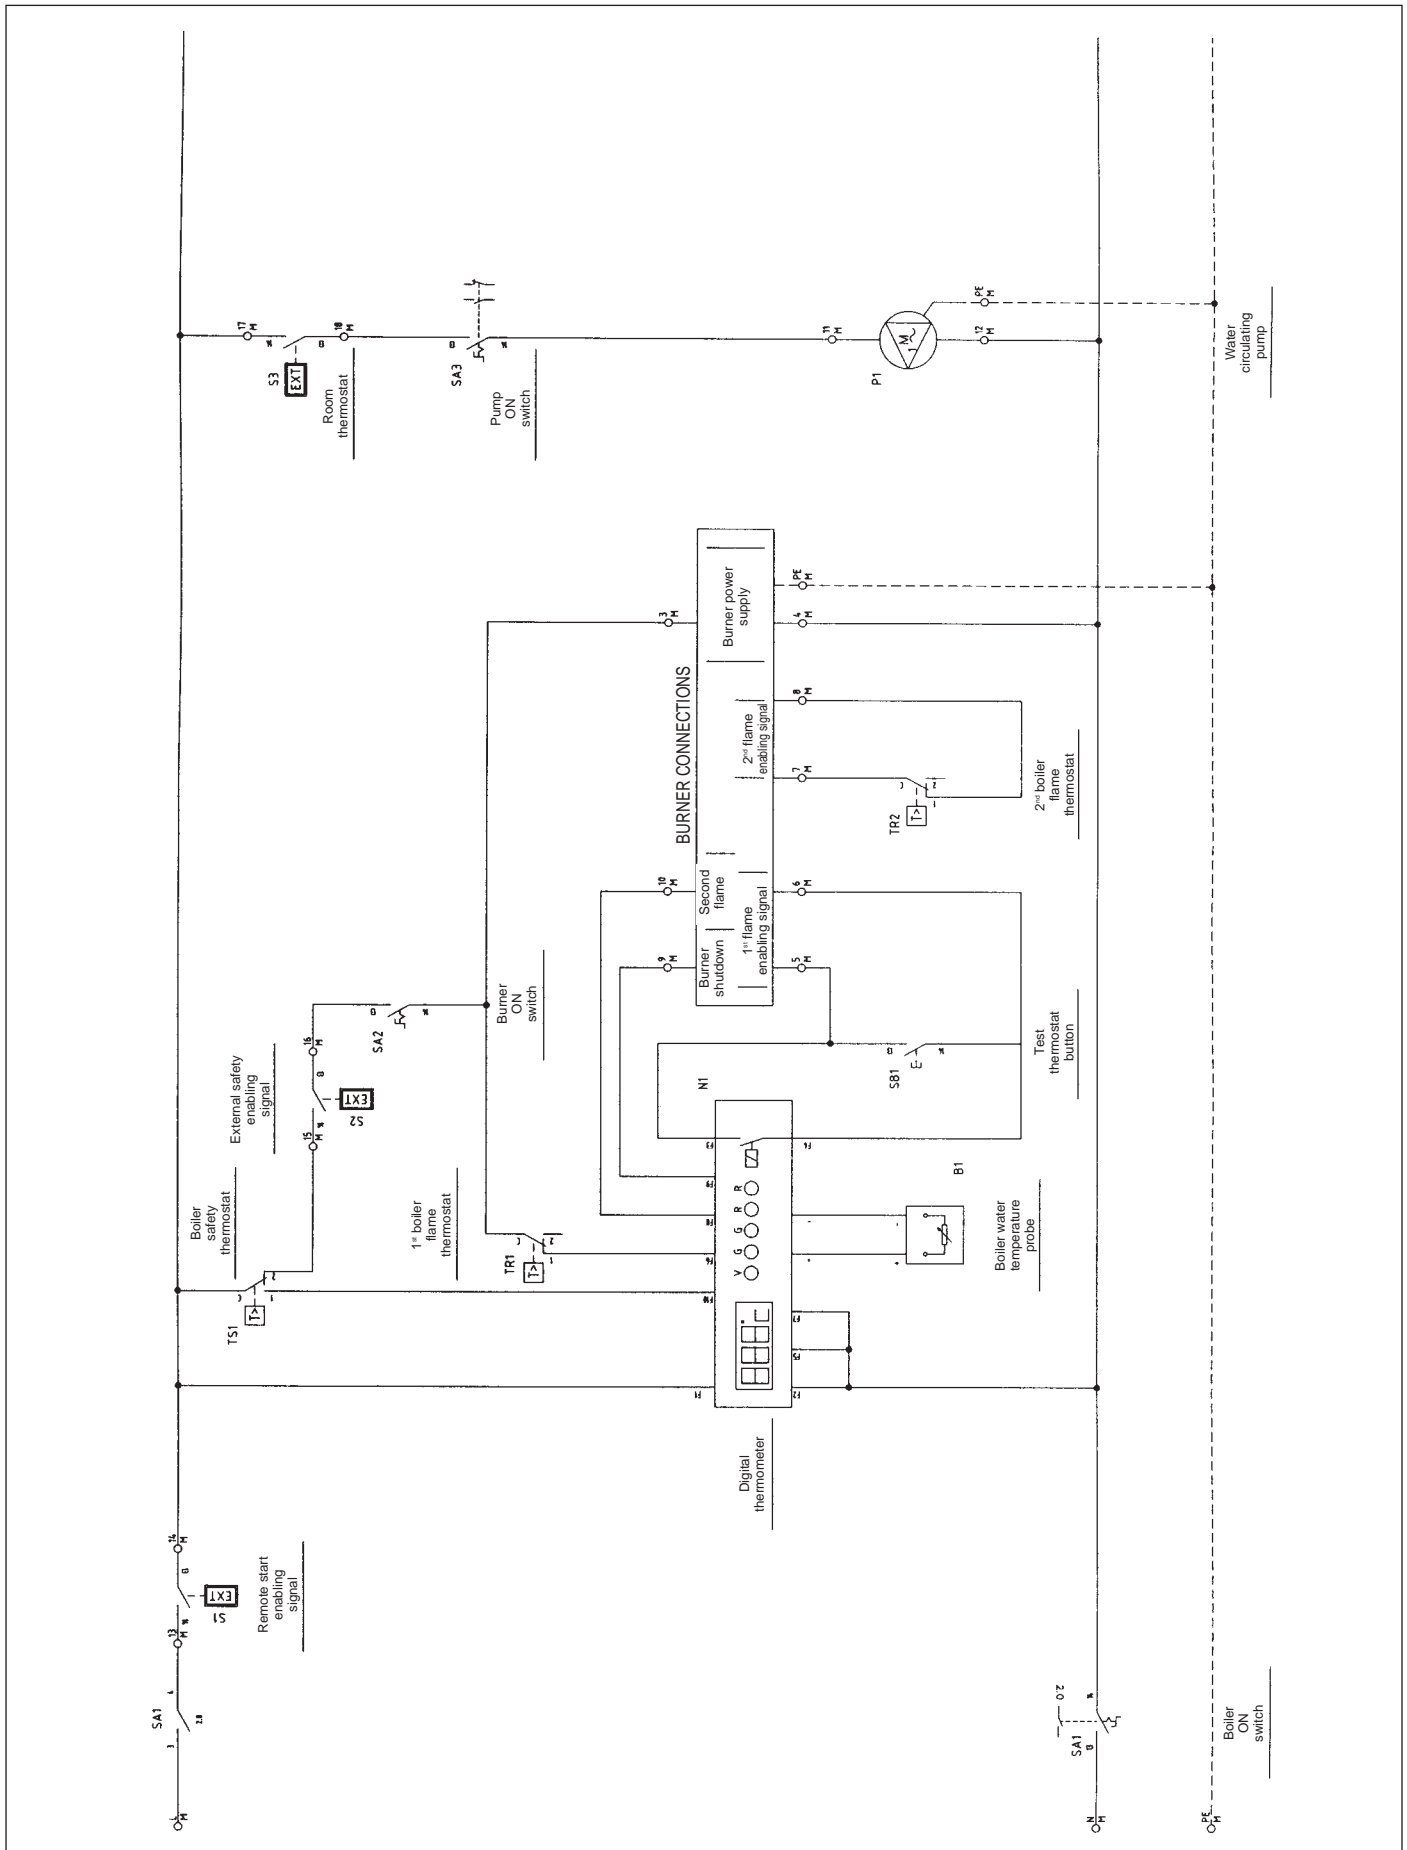

Fig. 17
6.4 Wiring diagram for burner and single-phase pump (Fig. 17)